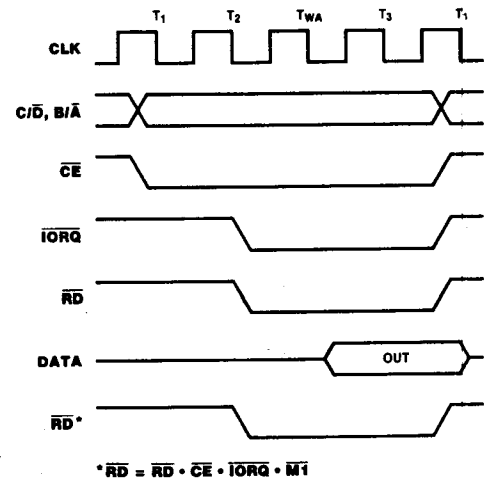

Figure 13. Read Cycle Timing
**Read Cycle.** Figure 13 illustrates the timing for reading the data input from an external device to one of the Z80 PIO ports.